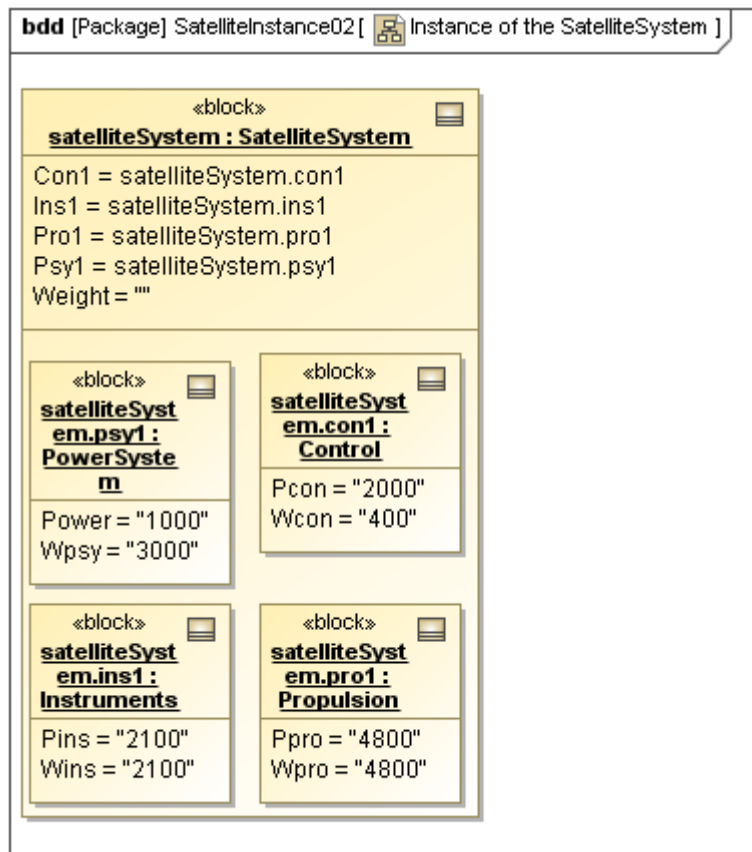

Figure 41 -- Example of Instance Created by Automatic Instantiation Wizard with Initialized Slots
5. Click **Finish**. The **SatInstance02BDD** diagram will be created (Figure 41).